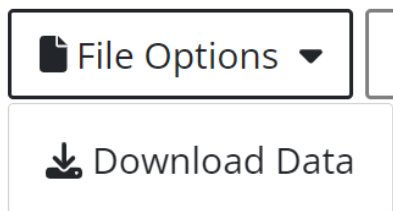

Figure 19: File Options (Normal User)
- download the information in the table (Figure 19)